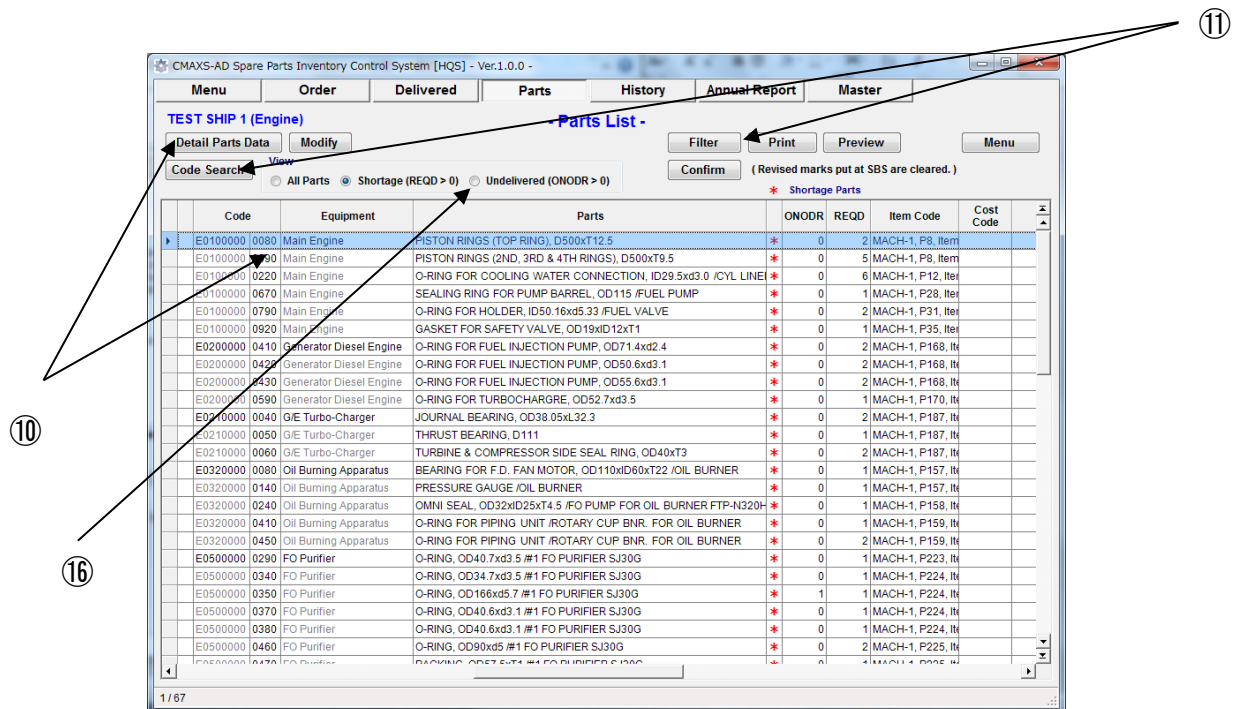

Fig.12-4 Parts List (Shortage) Screen
(9) "Parts (Shortage) Screen"(Fig.12-4) is displayed.